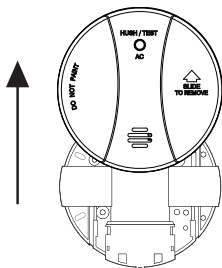

Figure 2: To remove smoke alarm
- 5.5 To re-install smoke alarm follow FIGURE 2 procedure 1 to 3. See page 9.
- 6.2.1 Separate Smoke Alarm from mounting base by sliding cover (See Fig. 2).